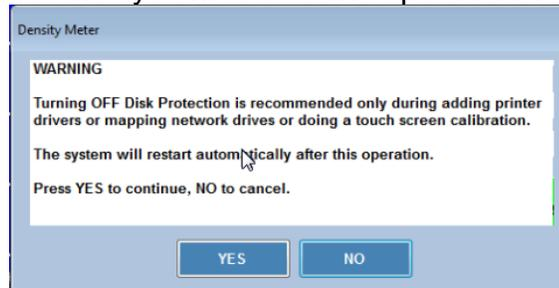

Figure 10-6 - Turn Off Disk Protection - Confirmation Dialog
6. You will see the warning message shown in Figure 10.6 below. Click the **Yes** button. The AlcoTest® system will automatically restart. Please allow 20 to 30 seconds for the system to become operational again.